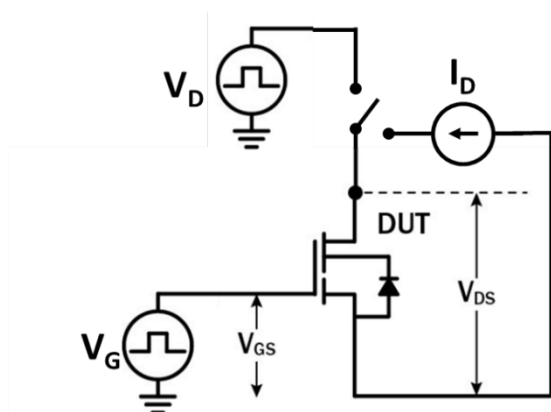

Figure 21. Dynamic $R_{DS(on)eff}$ Test Circuit
1. Dynamic $R_{DS(on)}$, 100% tested; see Figure 21 and Figure 22 for conditions.